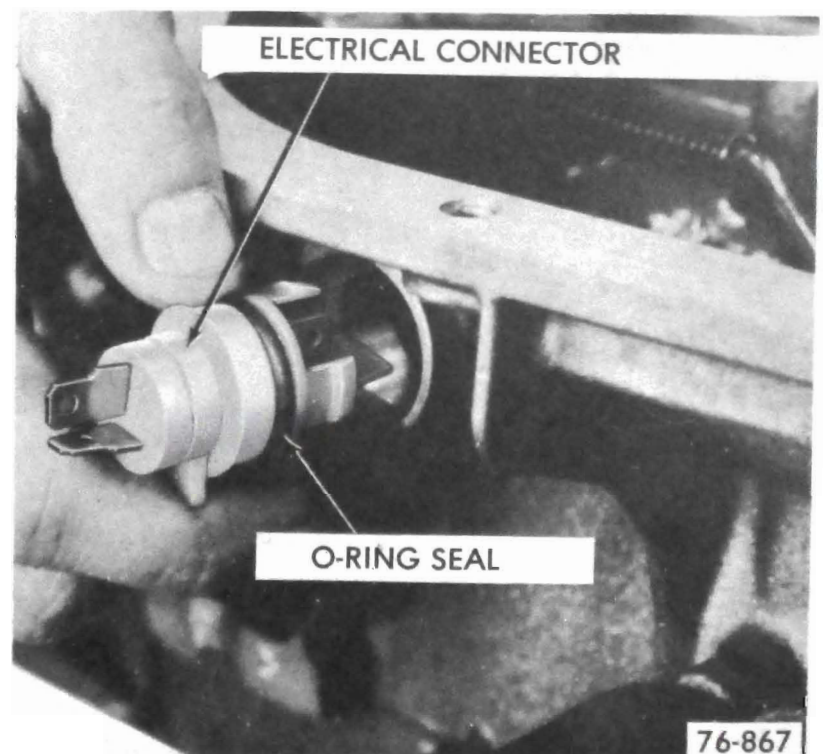

Figure 76-68
5. Compress fingers on electrical connector sleeve and withdraw. See Figure 76-68.